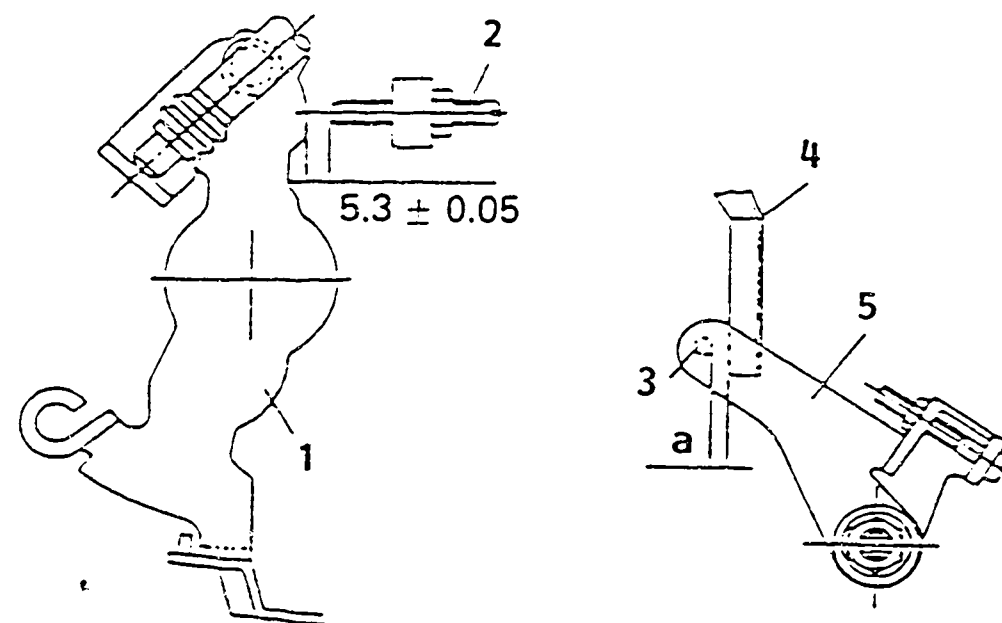

Fig. 20
#### 1. Timer stroke adjustment (refer to Figs. 20 and 21)
2. Fast Idle Adjustment (Refer to Figs. 20 and 21)